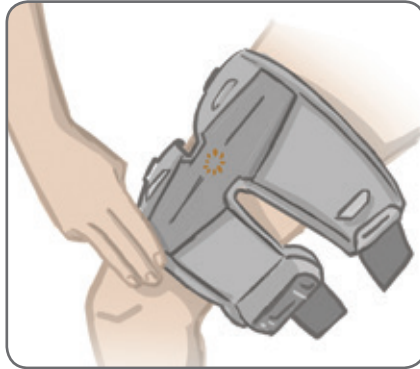

Figure 6-15: Correct Position of the Thigh FS Cuff Locator (Quadriceps Position Shown)
3. Place the thigh FS Cuff locator (a tactile finger mark) on the midline of the thigh, approximately three finger widths from the knee. See Figure 6-15. Make sure to place thigh FS Cuff in the fitting position determined by your clinician.